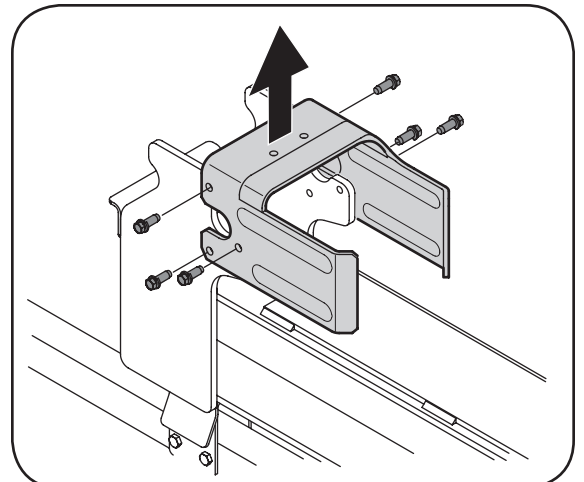

Figure 3-4
2. Disconnect the dislodger from the beam weld bracket by removing the six hex screws. See Figure 3-4.